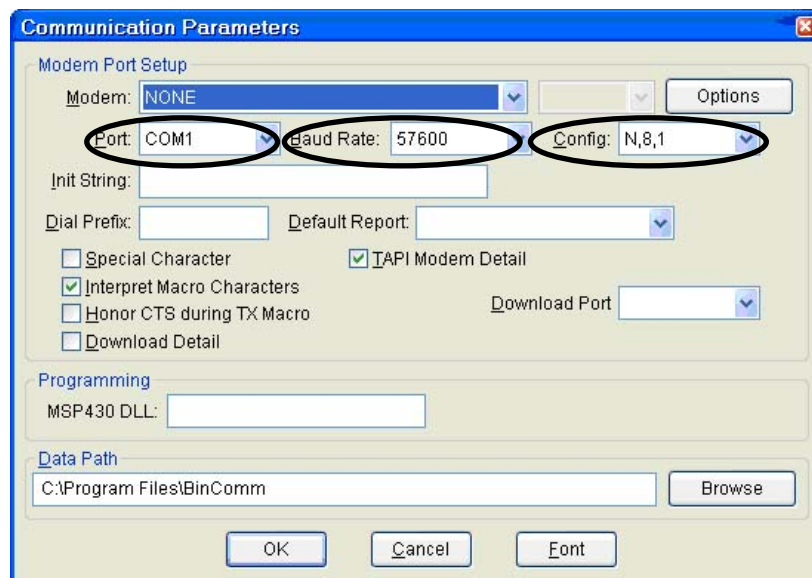

Fig. 8.2: BinComm Communications Parameters
- 8.3.3 Set or verify **Baud Rate** set to **57600** at **Config N,8,1**. Fig. 8.2